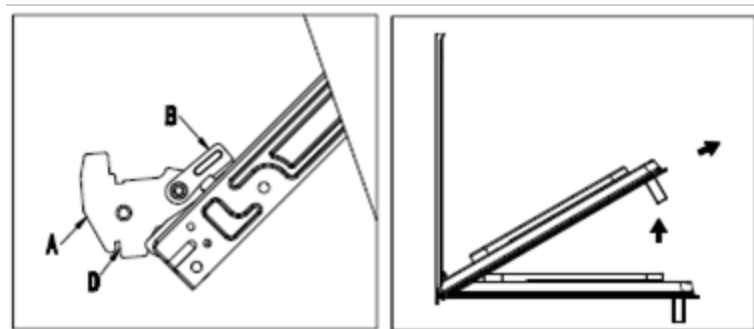

Fig. 1
- Open the door completely and lift the 2 levers “B” (figure1)